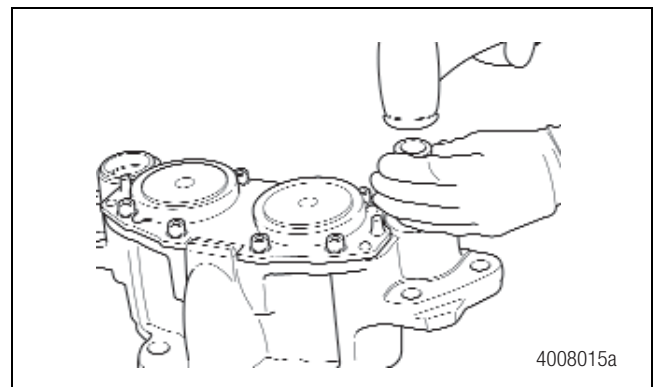
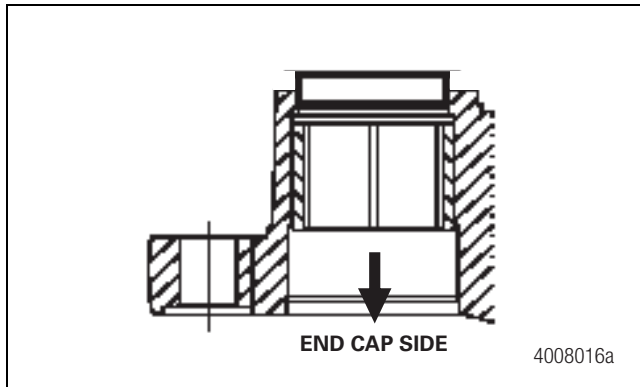

Figure 5.33
Figure 5.34
3. Use Meritor tool MST 1000 to drive out the bushing from the housing. Figure 5.33. Refer to Section 10 for tool details. The bushing must be pushed out in the direction of the end cap side of the bore. Figure 5.34.